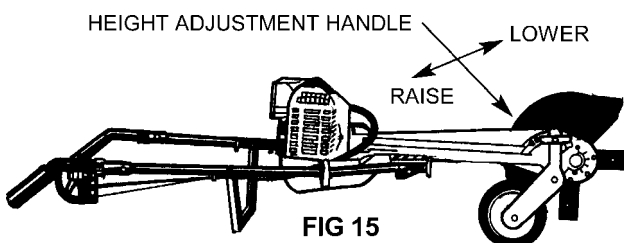

FIG 15
- Adjust blade height (Fig. 15). With a new blade, try the second hole closest to operator.